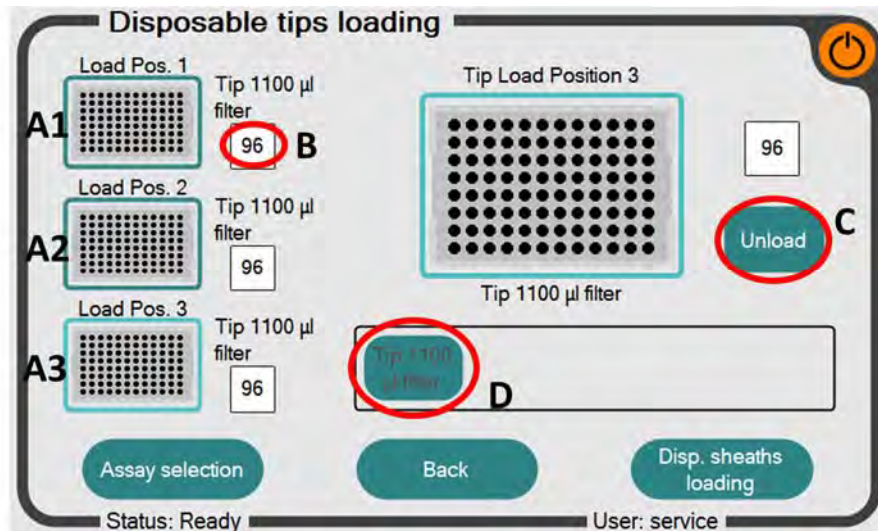

Figure 12: Disposable tip loading screen of the InviGenius® software
There are three tip rack positions on the InviGenius® system (Fig. 12, A1-A3). Remaining tip-numbers are shown in B. Tip-numbers can be changed by pressing the number-field directly.
- 1.) Press the plate position directly. The software will focus at the plate position on the main screen (in Figure 12 Incubation plate D is focused).